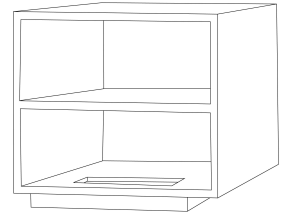

Figure 4
- Cabinets which are fully recessed and have no exposed sides are more of a challenge to ventilate. The type of base a cabinet has will affect how we can most easily cool them. There are two types of cabinet bases; one is the recessed type as seen in kitchen cabinets; the cabinet's floor extends about 2" beyond the base as shown in Figure 4.